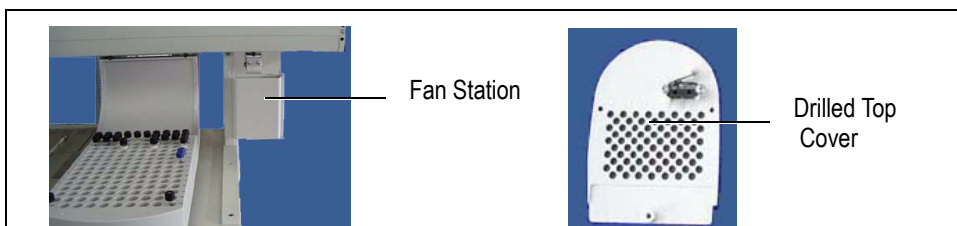

Figure 4-36. Example of Fan Station Installation
1. Install the Fan Station away from the heated surface as shown in the example of Figure 4-36.